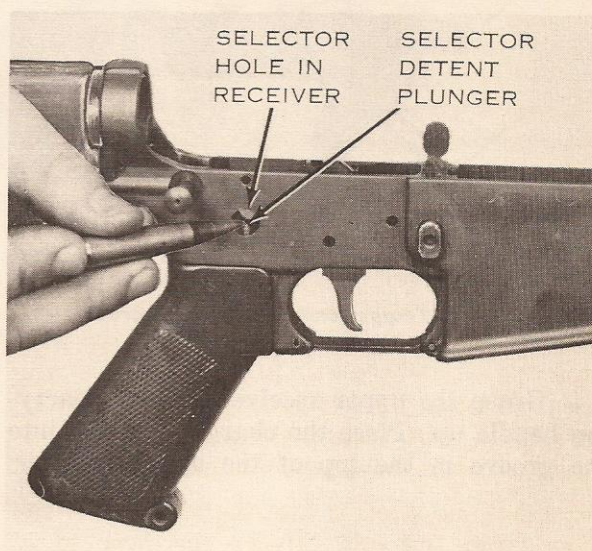

Figure 22. Removing the selector lever.
e. Press out the selector from right to left using the nose of a dummy round (fig. 22). The trigger must be held forward when removing the selector. Considerable pressure is required to press out the selector.